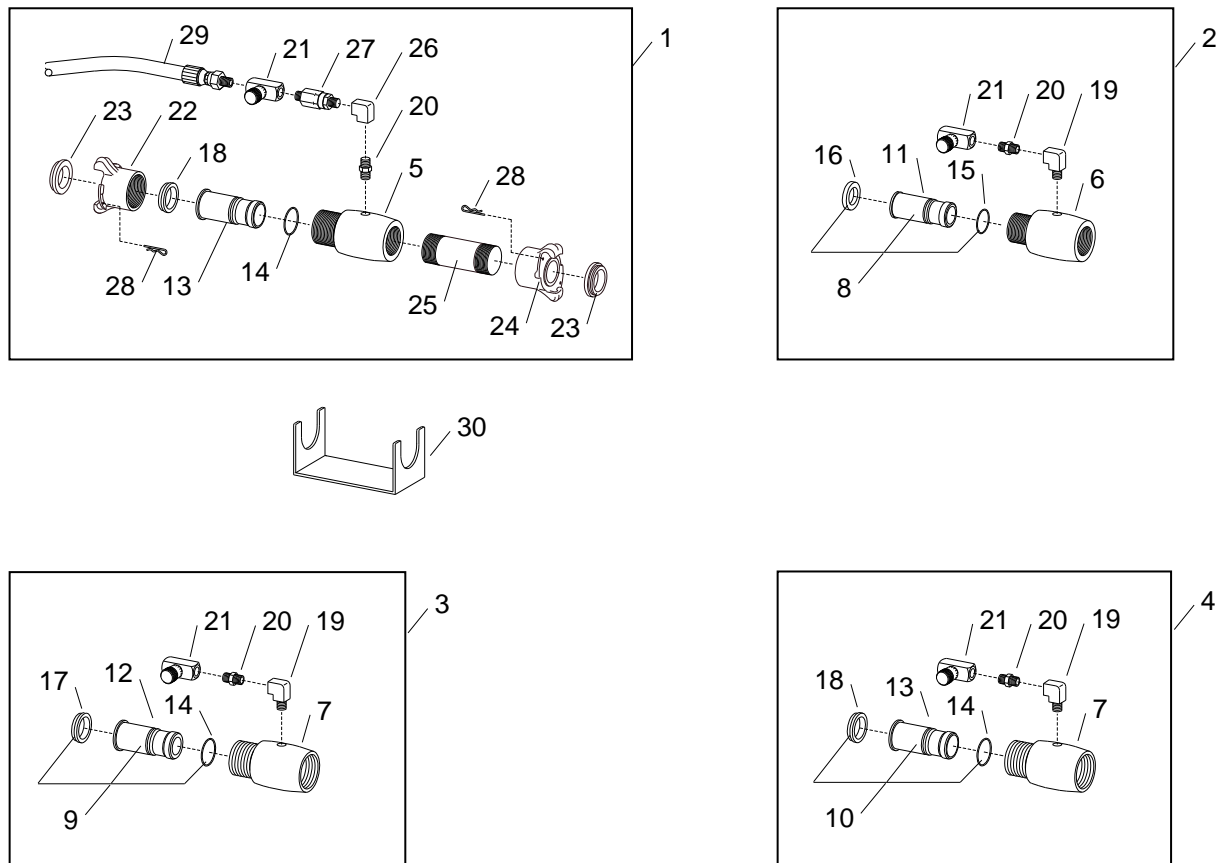

Figure 54
9.11 Injector Assemblies, Figure 54